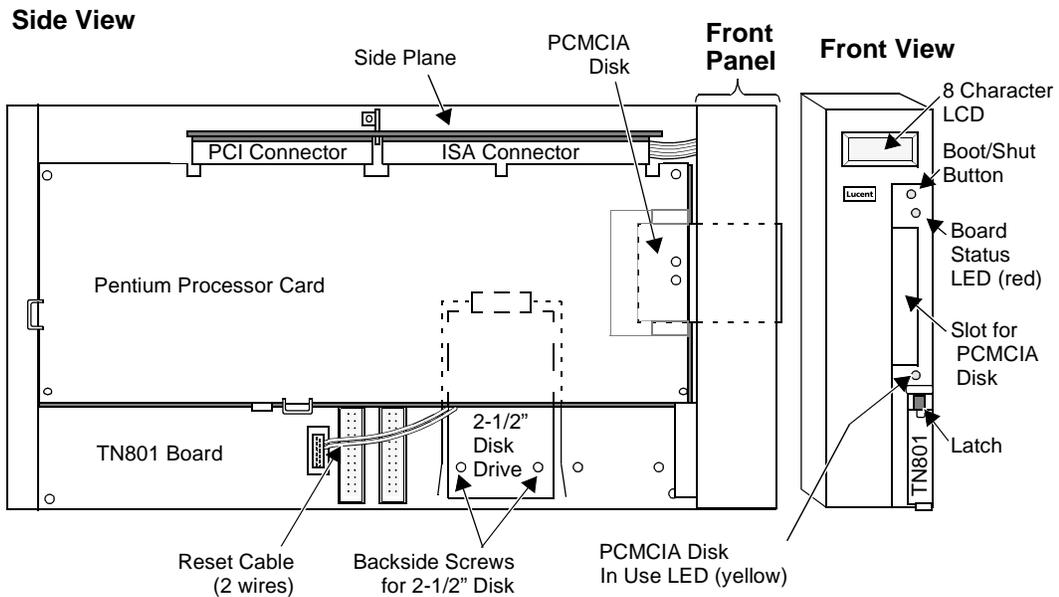

Figure 2-4. MAPD System Assembly (J58890MA)
5. Insert the system assembly (see Figure 2-4, "MAPD System Assembly (J58890MA)") into the switch cabinet as follows: